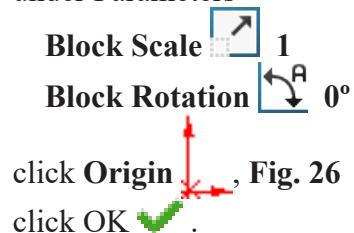

Fig. 23
Step 1. Click the front face of Extrude2 and click Sketch  on the context toolbar, Fig. 23.